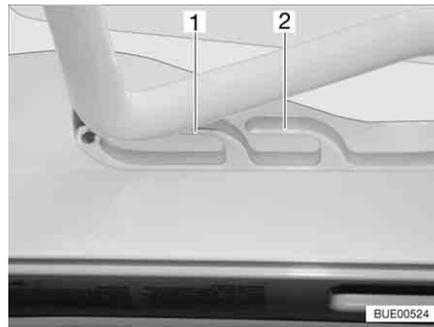
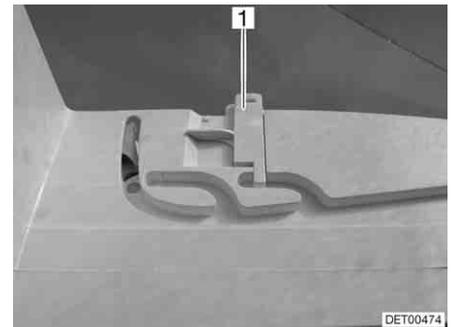

Fig. 70 Heki skylight in ventilation position
Fig. 71 Ventilation position locking mechanism
The Heki skylight can be put in two ventilation positions: Bad weather position (Fig. 70,1) and central position (Fig. 70,2). Depending on the model, the skylight can be locked in the central position with both left and right latches (Fig. 71,1) on the skylight frame.
- Push the bar slightly upwards and into the selected guide (Fig. 70,1 or 2) and lock if necessary.